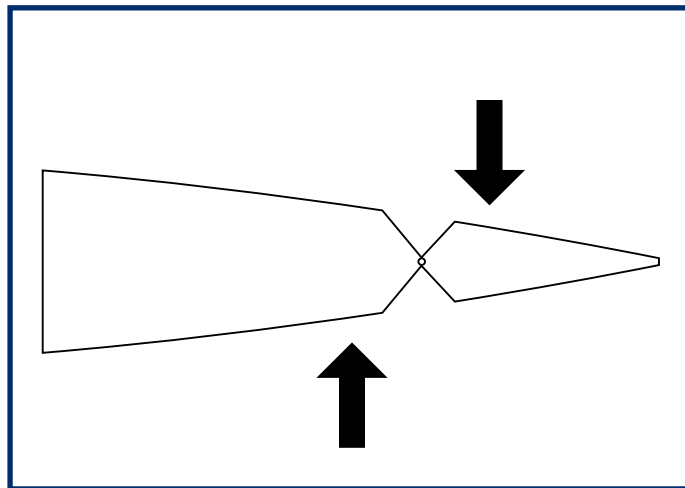

Figure 1 - Test for hinge movement and loose hinges
1. Verify the ailerons, flaps, elevators and rudder are properly hinged and in good working order. Pinch a control surface between your thumb and forefinger and grasp the stabilizers with your other hand. Attempt to move the control surface back and forth perpendicular to the stabilizer (see Figure 1). Watch the hinges for movement. If you find any loose hinges, apply Foam-Cure or 15/30 minute Epoxy, being sure to stay away from the hinge pivot, to the loose side(s) of the hinge(s) and re-insert into its location. **DO NOT apply thin CA to pin hinges!** Ensure that the hinge moves freely.